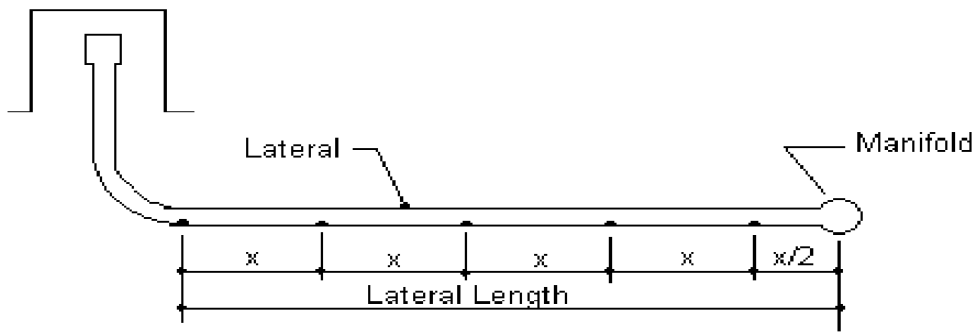

**Figure 1 – Lateral Length**
2. Determine lateral length and spacing in accordance with the soil treatment/dispersal component design or Table 2, if not specified in the soil treatment/dispersal component design. See Figure 1.